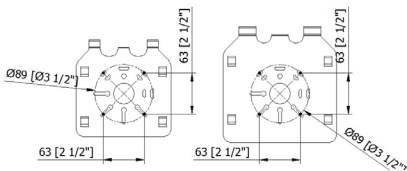

Fig. 9
2. Drill four corresponding holes in the mounting surface. Use the drilling patterns shown in Fig. 9.